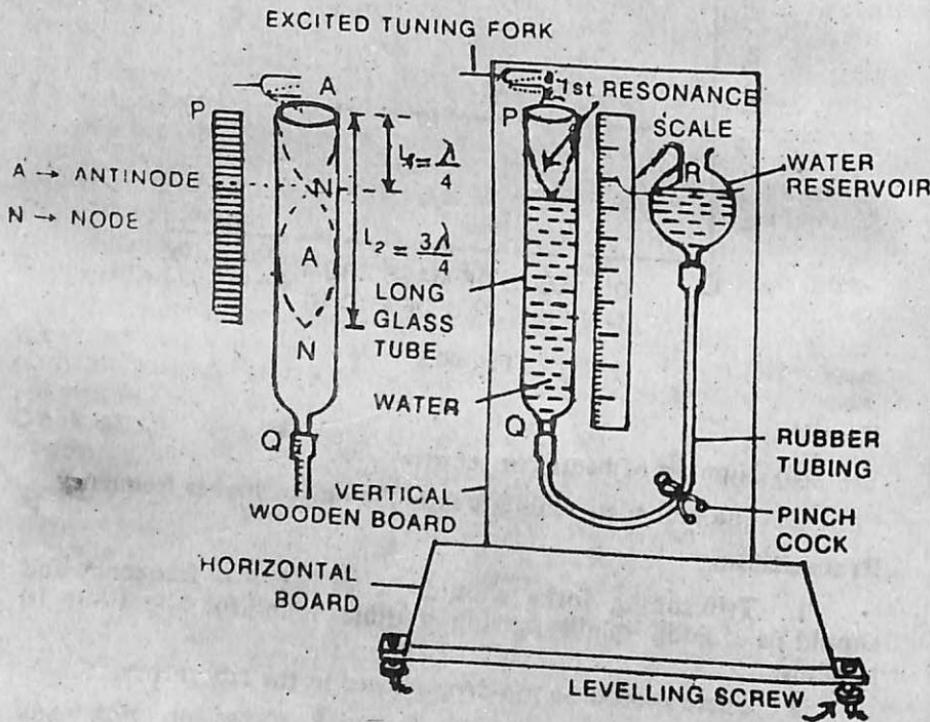

Fig. 41.1. Resonance Tube Apparatus
An air column can easily be set into vibrations with the help of a tuning fork. The frequency of the air column can be adjusted equal to that of the tuning fork by varying its length. This can be easily achieved with the help of an apparatus called *resonance tube* (Fig. 41.1).
Let a tuning fork of frequency ' $n$ ' be struck against a rubber pad and held at the open end (P) of the tube as shown in Fig. 41.1. Adjust the level of water in the tube so that the air column begins to vibrate in resonance with the tuning fork and a loud sound is heard. Let us understand what happens when the *air column resonates*.
2. Pour water in the reservoir (R) and the tube (PQ). Test the pinch-cock i.e., the water level in the tube does not change when the pinch-cock is closed and note down the room temperature in °C.
3. Strike gently a tuning fork of known frequency say 512 hertz on the pad. Hold it above the open end of the tube so that its prongs are horizontal and vibrate in a vertical plane as in Fig. 41.1.